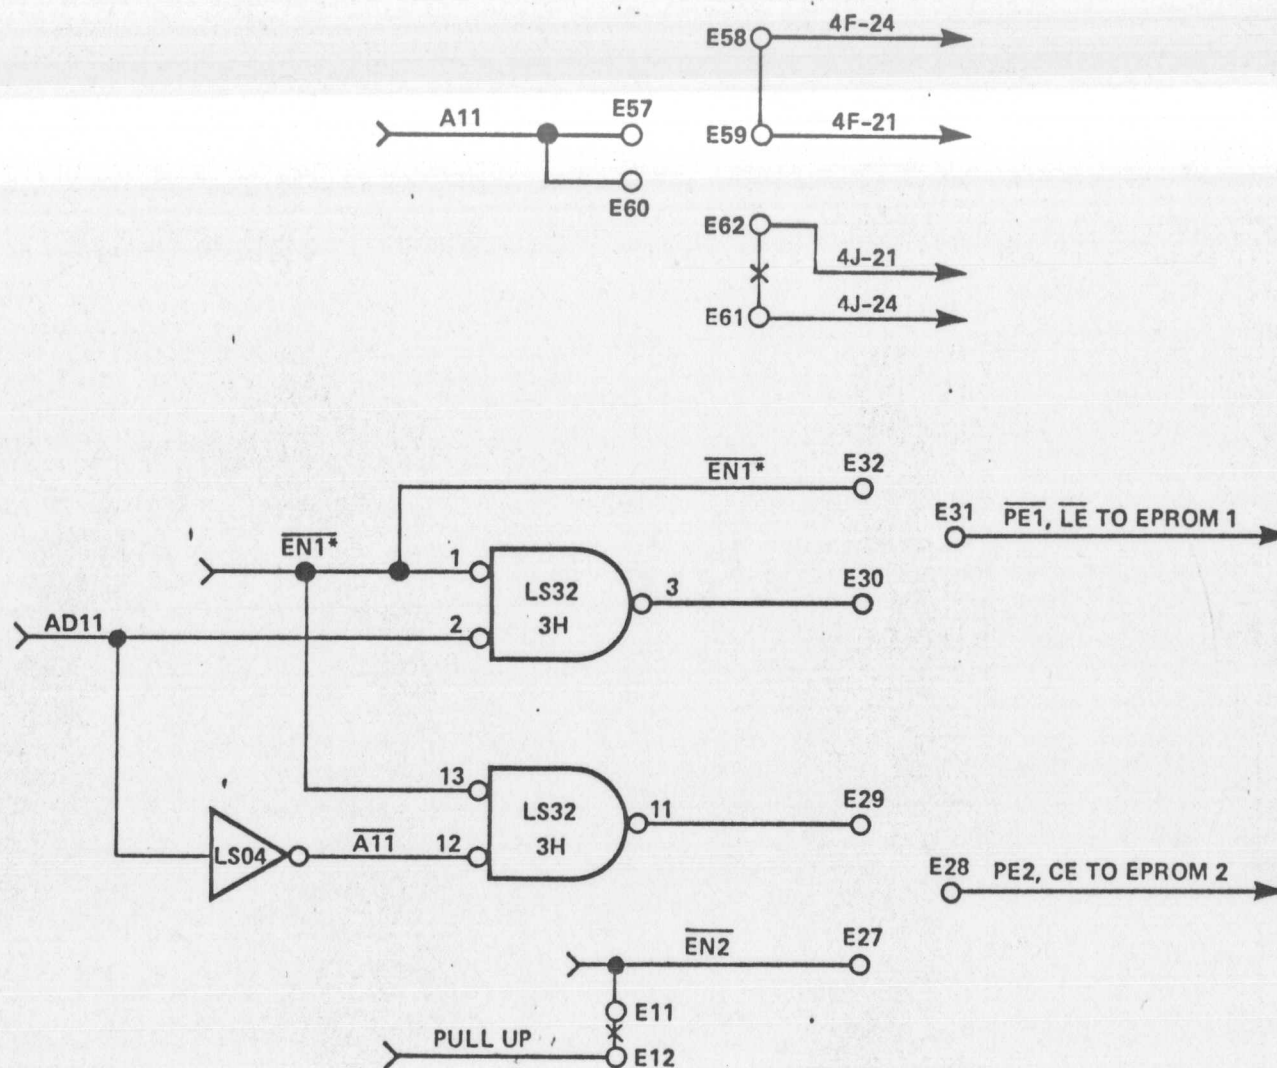

FIG: 6
9.3 EPROM 2716 (2K x 8) or 2732 (4K x 8) Selection (FIG: 6)